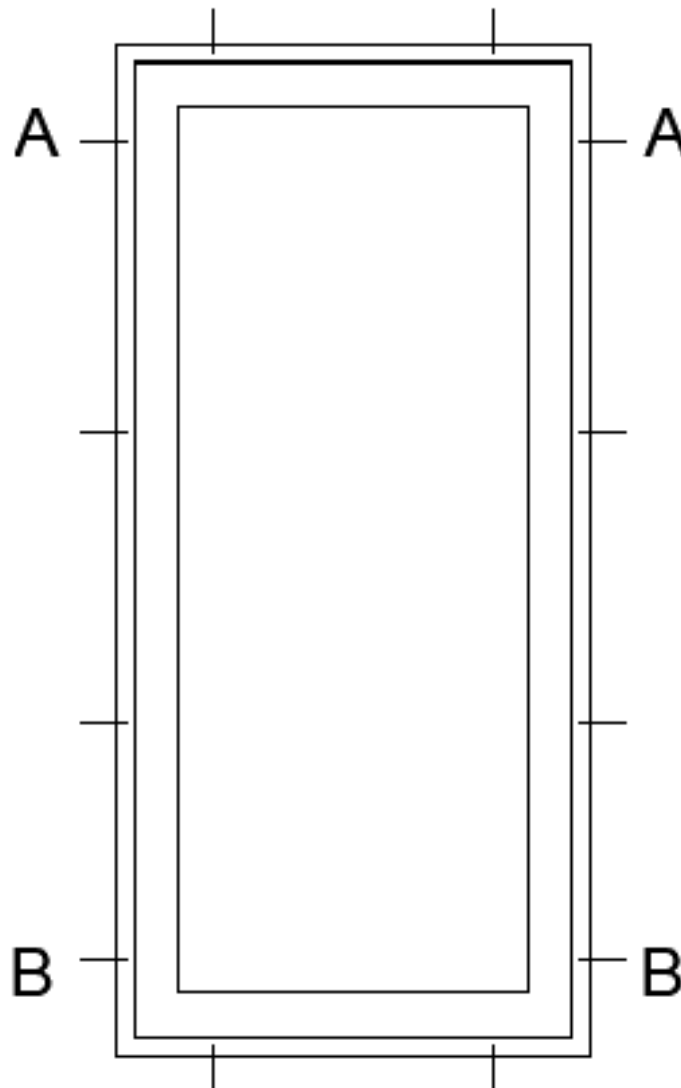

FIGURE 2
- Fasten the construction's upper corners A on the vertical wall according to the existing fastening points (see Figure 2).
- Fasten the construction's lower corners B on the vertical wall according to the existing fastening points (see Figure 2).